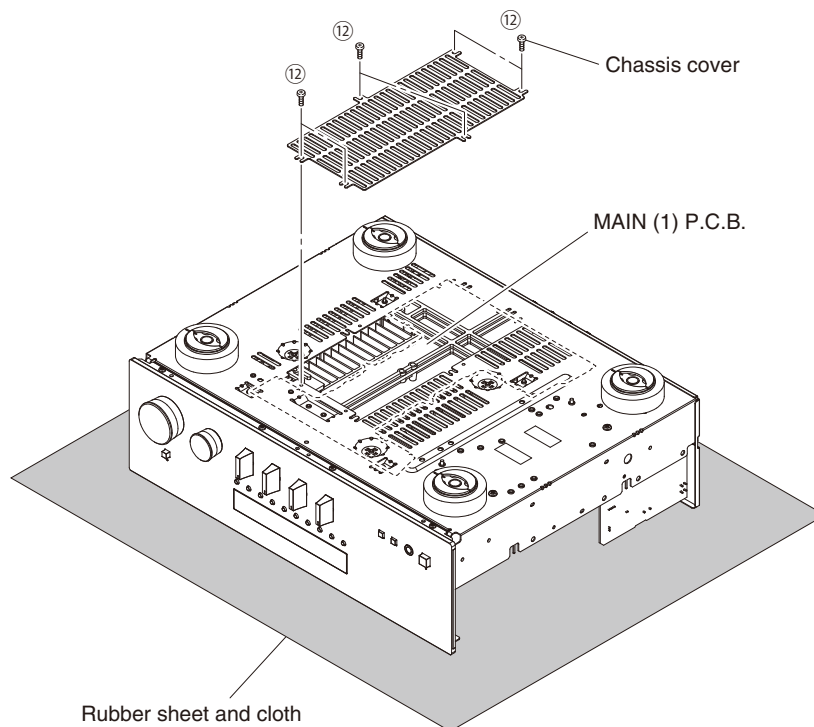

Fig. 5
**When checking the MAIN (1) P.C.B.:**
- Spread the rubber sheet and the cloth. Then place this unit upside down. (Fig. 5)
- Remove 6 screws (12) and then remove the chassis cover. (Fig. 5)